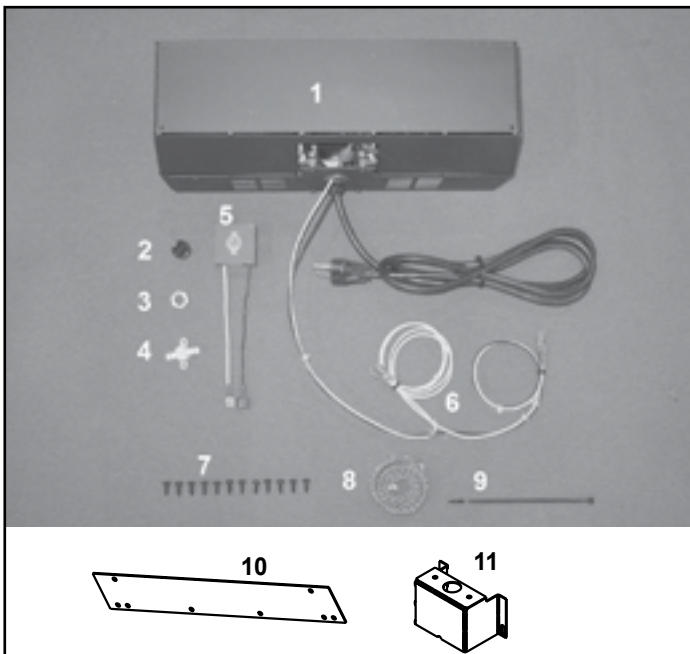

Figure 8.3 Fan Kit Contents
1. Open and inspect contents of the blower kit. The contents of the kit are listed above and shown below in Figure 8.3. If any of the parts are missing or damaged, please contact your dealer for replacements.